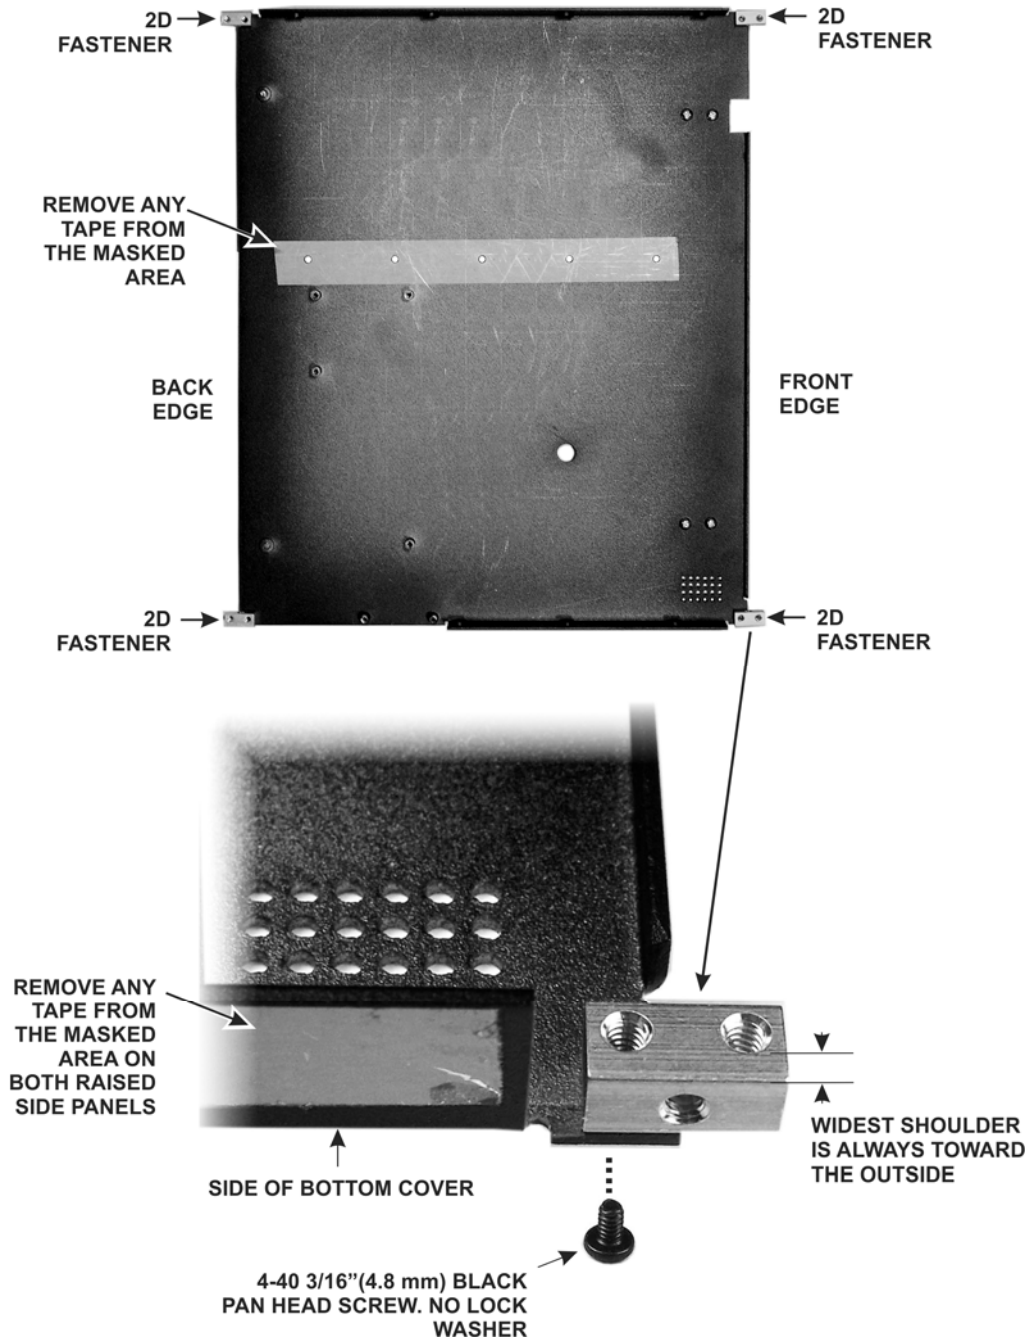

Figure 6. Installing 2D Fasteners in the Bottom Cover.
- Note that there is a hole at each corner of the bottom cover. Install a 2D fastener in each corner hole so it extends off of the front or back edge of the bottom cover as shown in Figure 6. Be sure the 2D fasteners are:
Remove any tape or tape residue you may find on the inside (partially painted) surface or on the outer surfaces of the raised sides covering the unpainted area as shown in Figure 6).